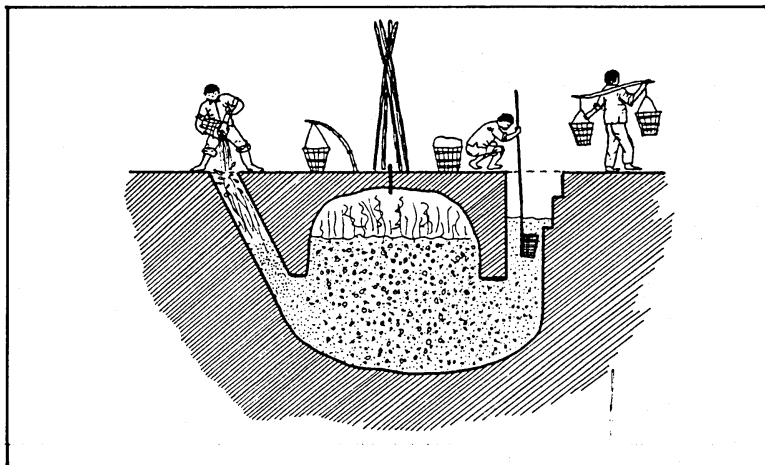

Figure 8 An underground biogas digester
Acknowledgements Figure 3 supplied by United Nations Information Centre; Figure 8 from *Methane Digestors* (Third World Science Project).
There are over 7 million biogas digestors in China, supplying energy for 35 million people. Often digestors are built in underground pits (Figure 8).
- 5 Look carefully at Figure 8, then write a few sentences about it. What are the different people doing?